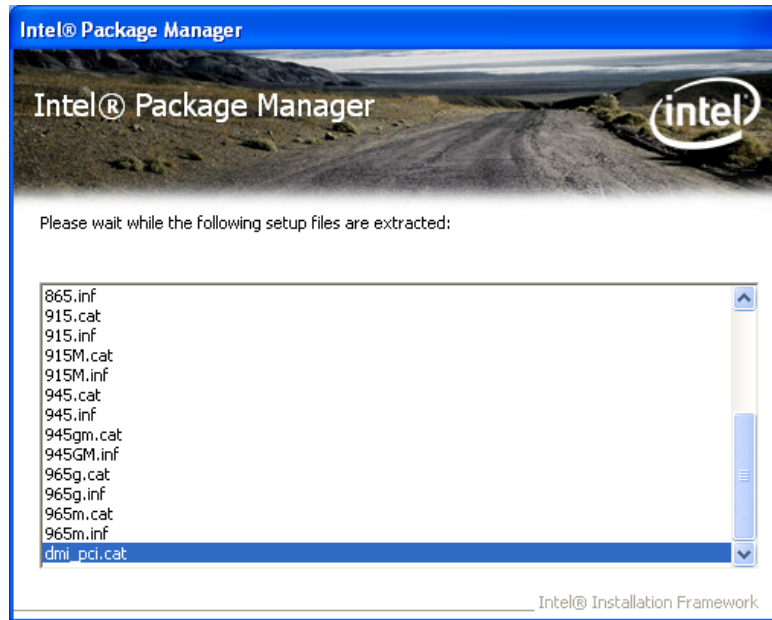

Figure 6-2: Chipset Driver Screen
- Step 4: The setup files are extracted as shown in **Figure 6-2**.